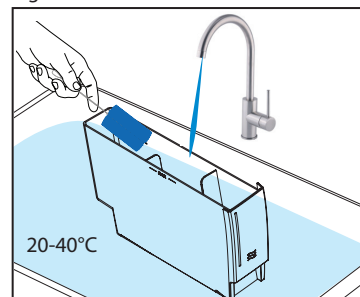

Fig.2
2. Wash the water tank with clean water, 20-40°C . A food-safe cleaning agent may be used as needed. (See Fig.2)